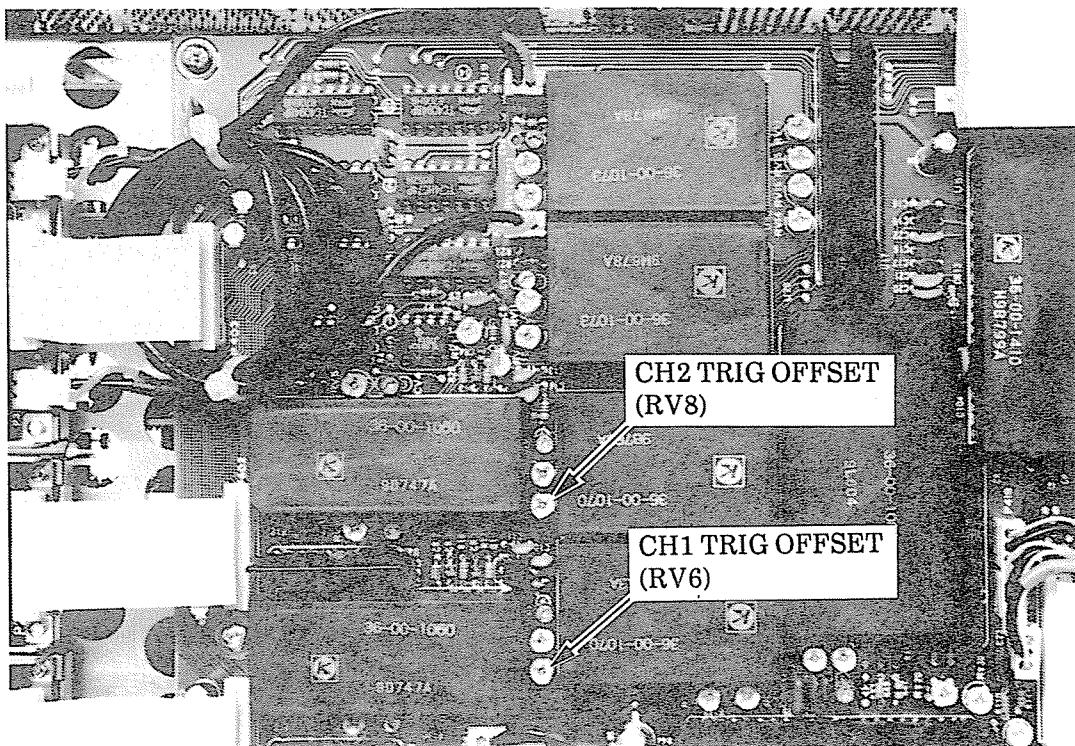

Fig. 4-25 Adjustment positions of CH1 and CH2 TRIG OFFSET (RV6 and RV8)
- (1) Perform initial setting of the oscilloscope in accordance with Table 4-3.
- (2) Set the input coupling of CH1 to "AC", and the input deflection factor to 0.1V.
- (3) Set "AUTO TRIG" to OFF.
- (4) Connect the output of a signal generator which has been set to about 50kHz, to the input terminal of CH1, and adjust the signal output so that the amplitude of the waveform on the CRT is 8 DIV.
- (5) Set "TIME / DIV" to 5 $\mu$ s / DIV.
- (6) Adjust "TIME / DIV" so that the trigger point moves to the center of the amplitude of the waveform.
- (7) Confirm that when "TRIG COUPLING" is switched from "AC" to "DC", or vice-versa, the trigger point does not move at the center of the amplitude of the waveform. If it does, adjust CH1 TRIG OFFSET (RV6) on board A4 shown in Fig. 4-25.
- (1) Set "VERT MODE" to "CH2", and set the input deflection factor to 0.1V.
- (2) Set the input coupling of CH2 to "AC", and connect the signal output to CH2.
- (3) Set "TRIG COUPLING" to "AC", and adjust "TRIG LEVEL" so that the trigger point moves to the center of the amplitude waveform.
- (4) Confirm that when "TRIG COUPLING" is switched from "AC" to "DC", or vice-versa, the trigger point does not move at the center of the amplitude of the waveform. If it does, adjust CH2 TRIG OFFSET (RV8) on board A4 shown in Fig. 4-25.